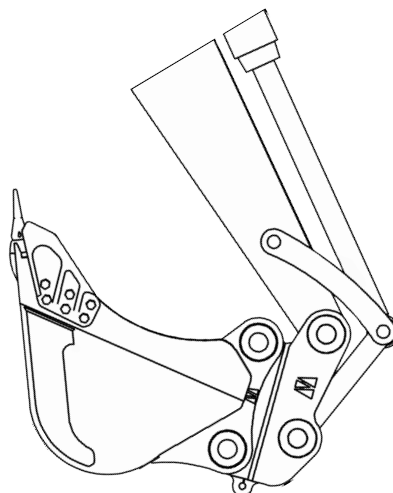

Fig 2.1.1
- Using the excavator arm control levers simultaneously lift and crowd the attachment until the second pin (rear pin) is seated in the rear jaw section (Fig 2.1.1)